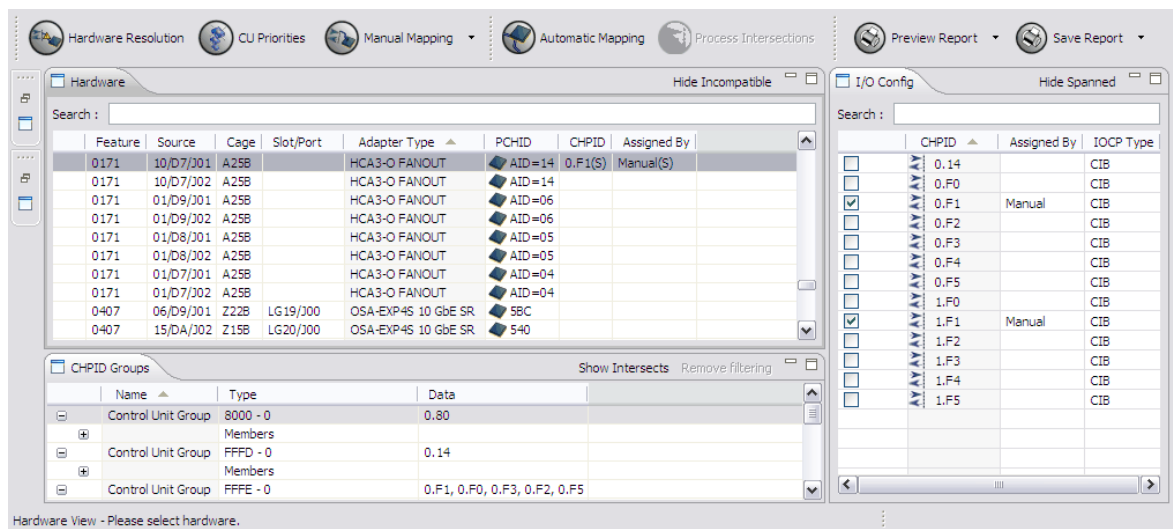

Figure 110. CHPID Mapping Tool automatically maps a CHPID to a PCHID
- If you map a single CHPID to a PCHID, the tool might automatically map an additional CHPID to that PCHID. Figure 110 on page 89 shows an example. The user selected the check box (at 0.F1) in row three of the I/O Config pane, and the tool selected the check box (at 0.F1) in the ninth row as well.